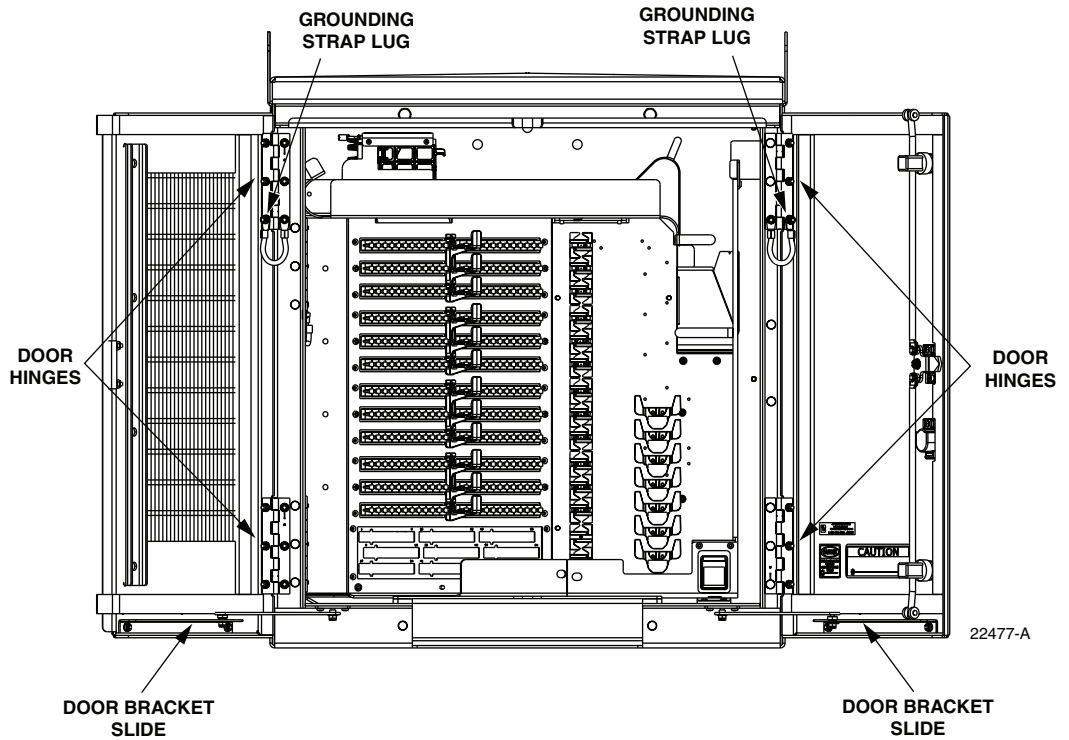

Figure 23. Door Replacement
1. Open both cabinet doors and lock them in the open position as shown in Figure 23.
- ▶ **Note:** Be sure to re-secure the grounding strap lug (see Figure 23) to the door when securing the hinges to the door.